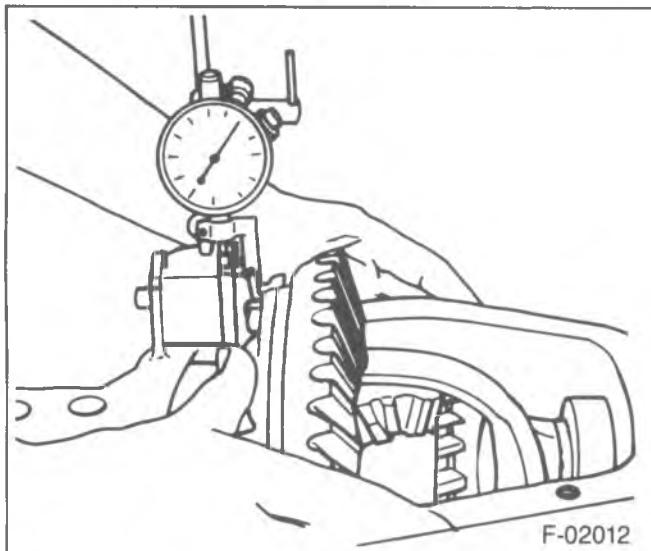

Figure 103—Determining Differential Shim Pack
1. Assemble the differential case (22) to the axle housing. The pinion must not be installed.
2. Mount a dial indicator having a minimum travel of 0.200-inch with a magnetic base on the ring gear bolt side of the housing (figure 103).